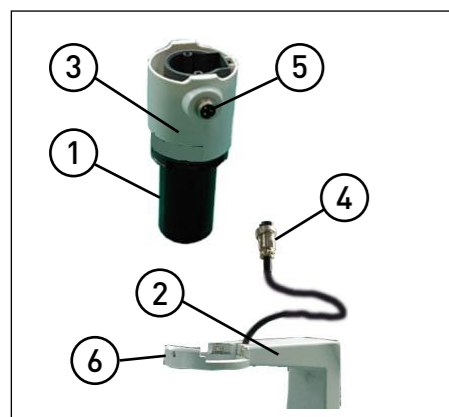

FIGURE 4
2.2.2 Installing the condenser illumination unit (Fig. 4)
1. Gently insert the condenser illumination unit (1) into the bracket (2) as shown in figure 4.
2. Rotate the condenser illumination unit clockwise approximately 90 degrees until the "AS" mark of the filter holder (3) faces forward. Align the screw of the condenser illumination unit and the hole of the holder, then secure the bolt with the supplied hexagonal wrench.
3. Insert aviatric BNC connector plugs (4) into aviatric BNC connector jack (5).